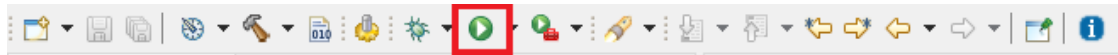

Figure 10: *STM32CubeIDE* menu icons - Run
- If your target is connected to the computer click **Run** → **Run** or click on the *Run* icon as seen in Figure 10. The program is now transferred to the target and is automatically started.